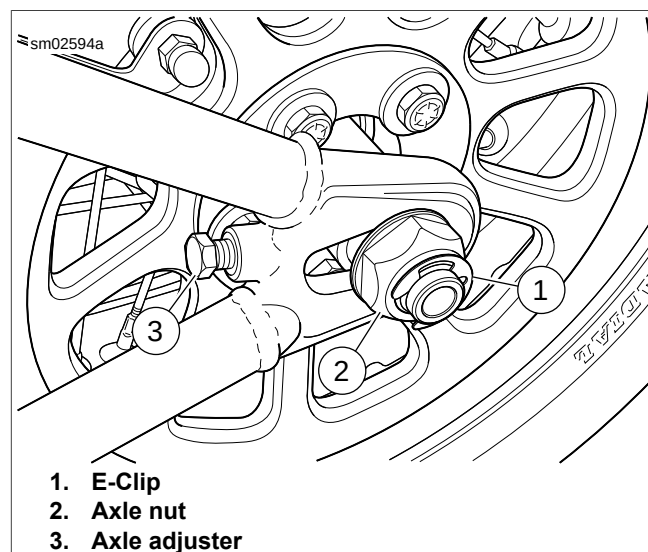

Figure 2-43. Axle Adjusters
1. **All but FXSB:** See Figure 2-43. Remove e-clip (1). Loosen rear axle nut (2).
6. **All but FXSB:** See Figure 2-43. Install e-clip.